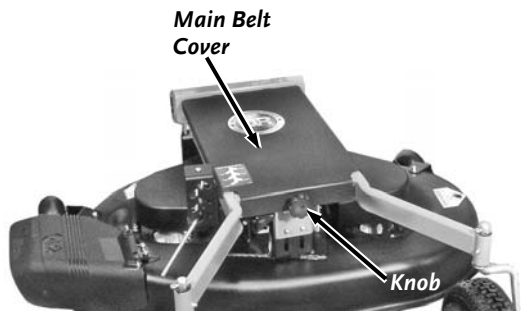
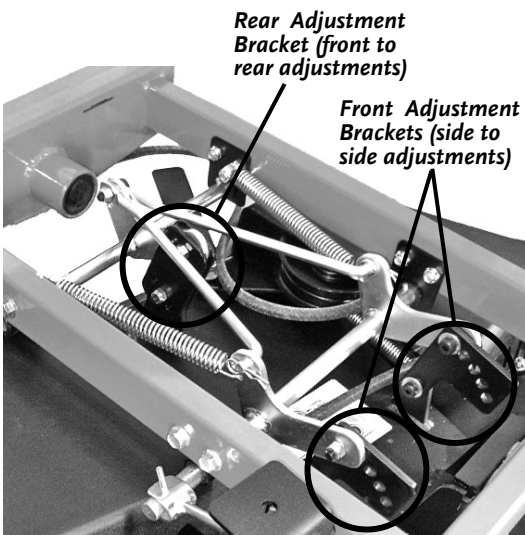

Figure 16
Figure 17
2. Unscrew the Knob and remove the Main Belt Cover (Figure 16) and locate the Adjustment Brackets (Figure 17).